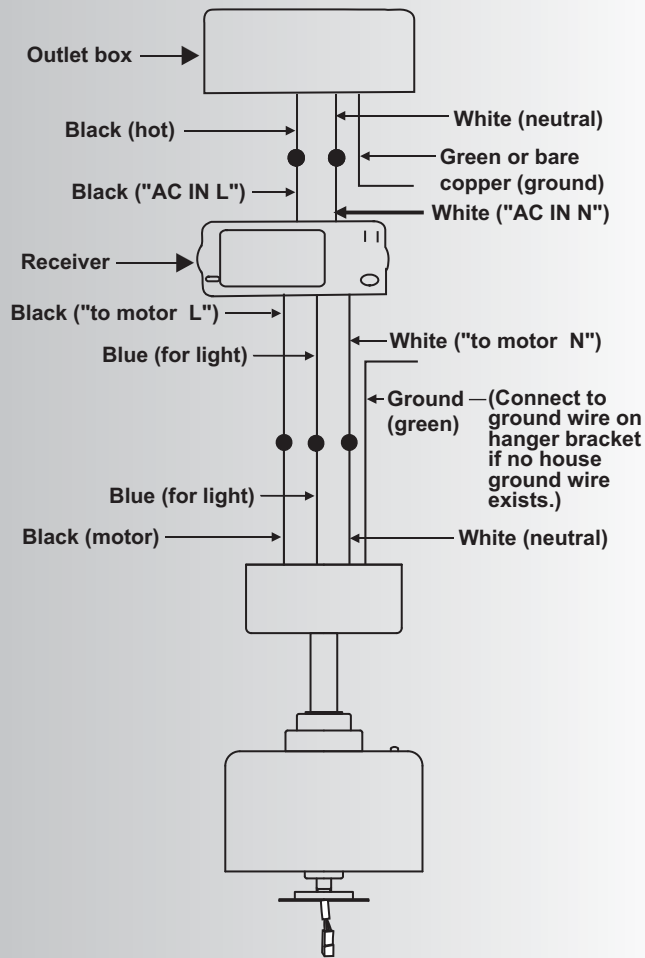

Fig. 14
**Step 2.** Motor to Receiver Electrical Connections: (Fig. 14) Connect the black wire from the fan to the black wire marked "TO MOTOR L" on the receiver.
Step 3. (Fig. 14) Receiver to House Supply Wires Electrical Connections: Connect the black (hot) wire from the ceiling to the black wire marked "AC in L" from the receiver. Connect the white (neutral) wire from the ceiling to the white wire marked "AC in N" from the Receiver. Secure the wire connections with the plastic wire nuts provided.
Step 4. (Fig. 14) If your outlet box has a ground wire (green or bare copper) connect it to the fan ground wires; otherwise connect the hanging bracket ground wire to the mounting bracket. Secure the wire connection with a plastic nut provided. After connecting the wires, spread them apart so that the green and white wires are on one side of the outlet box and black and blue wires are on the other side. Carefully tuck the wire connections up into the outlet box.